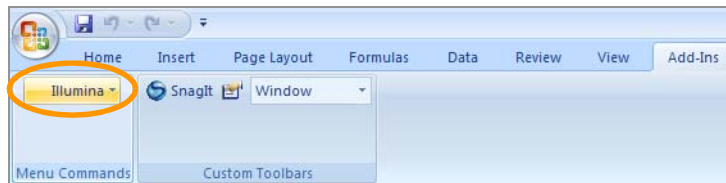

Figure 111 Illumina Add-In Now Available for Excel
- A new option called "Illumina" is now available under the **Add-Ins** tab of Excel (Figure 111).